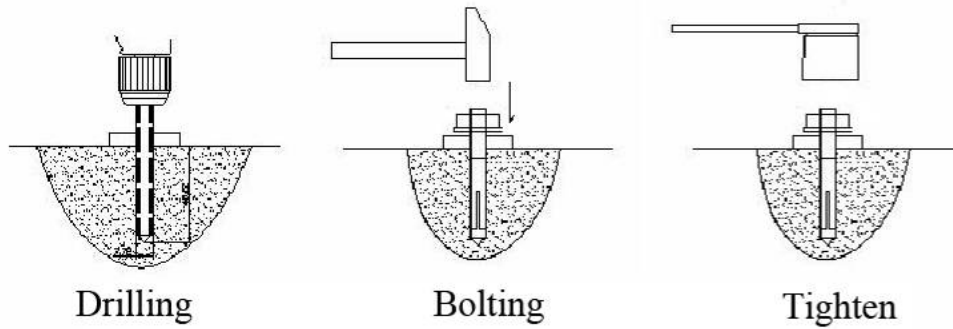

Fig. 15
2. Use a rotary hammer drill with a $\frac{3}{4}$ " masonry drill bit, and drill all the anchor holes and install the anchor bolts. Tighten the anchor bolts to 100 foot pounds (See Fig. 15).